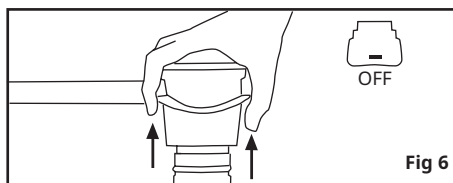

Fig 6
All taps of the user appliance are closed. The opening knob of the KOSAN type 682 is in the closed position (by turning it a half turn until the stop, the red flame is not visible, "OFF"). Afterwards, remove the regulator by pulling the ring(3) as shown in figure 6. Note: it is not possible to pull the ring until the knob is in the horizontal position and the marking "OFF" is not visible. This is an important security feature.